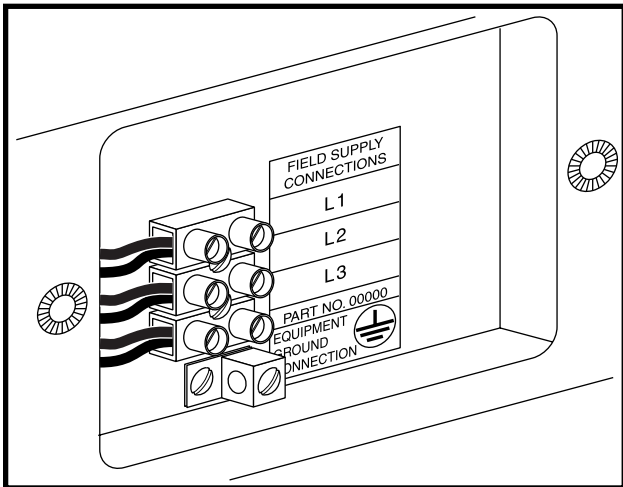

Figure 9. AC Wiring Block
2. Referring to Figure 9, use a voltmeter to check for the presence of voltage.